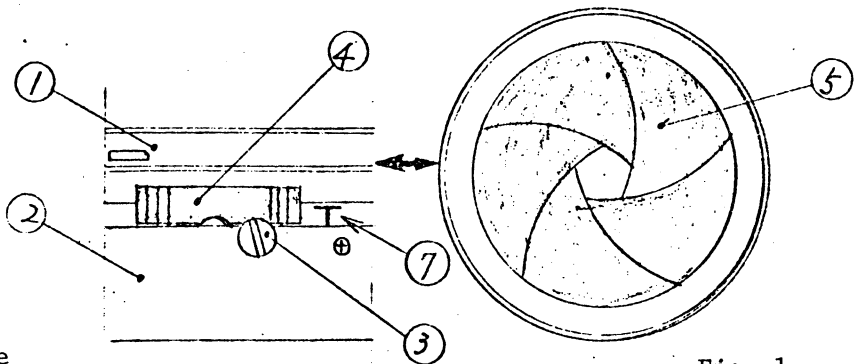
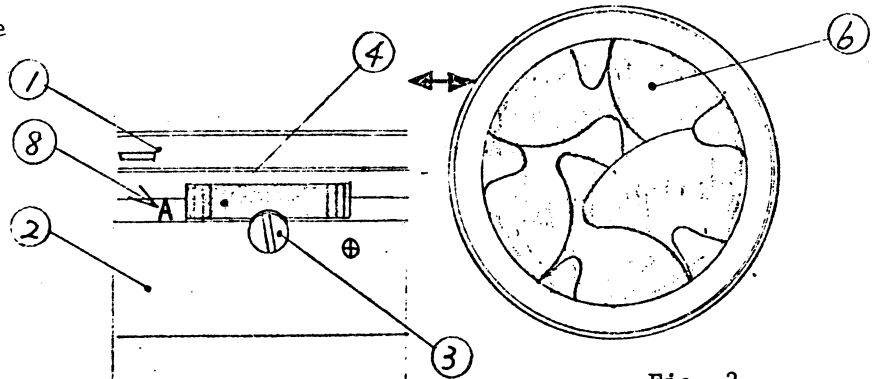

Fig. 1
Fig. 2
Set the T change-over lever of the helicoid with front and rear frame installed at the position shown in Fig. 1, and cause the shutter to operate, and after that put the lever back to the position shown in Fig. 2.
- (1) When the shutter is pushed with T change-over lever (4) set at the position of Fig. 1, the shutter vane (6) must be held raised with diaphragm iris kept in the condition of Fig. 1. That is, the condition of Fig. 1.
- (2) When the T change-over lever (4) is set at the position of Fig. 2, the shutter vane (6) of Fig. (2) must be lowered. That is, the condition of Fig. 2.
- (3) T change-over lever (4) must be smooth in operation, and click movement must be made.
- (4) Change-over of inspection items from 1 to 2 must be smooth and the operation of shutter vane (6) must be swift and stable at the time.